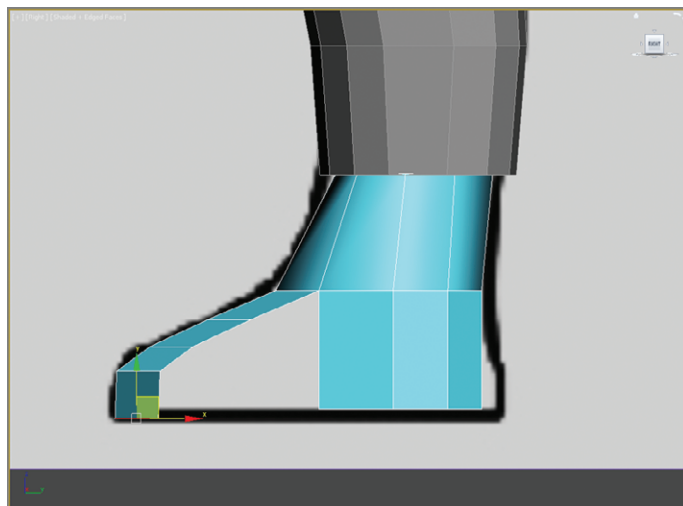

FIGURE 8.20 Using Extrude Edge (Shift + Move) method to create four new polygons that form with the image plane for the top of the boot
10. Select the two bottom-front edges that you ignored previously, and extrude-move them four times to form the extruded polygons to the image plane, as shown in Figure 8.20.
11. Repeat for a total of four new strips of polygons, as Figure 8.20 shows. Form the new polygons as needed to fit the top of the boot.